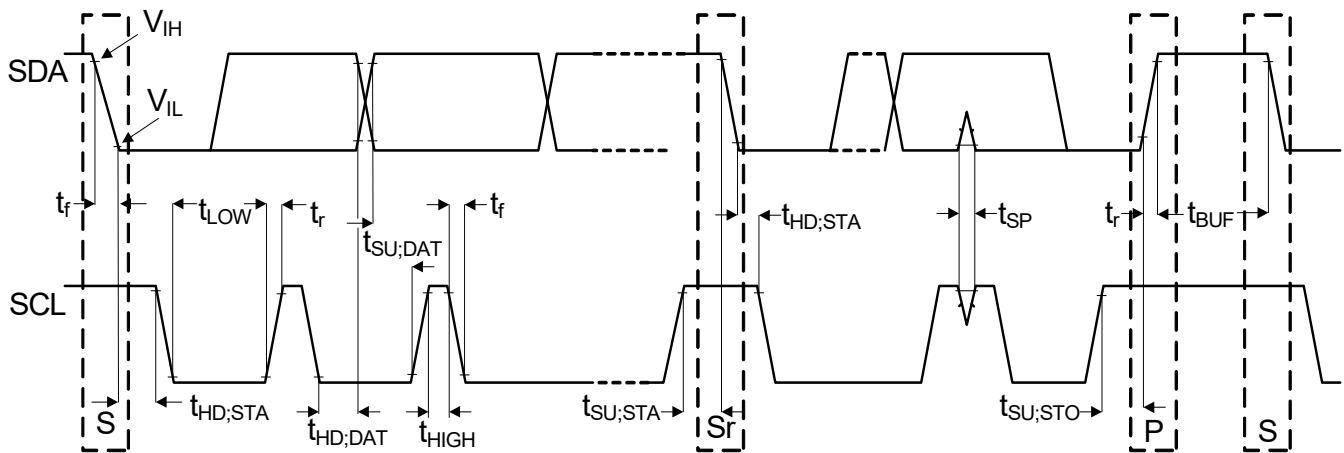

Figure 1. I2C Timing Definitions
- 4. Refer to Figure 1 for I2C timing definitions.